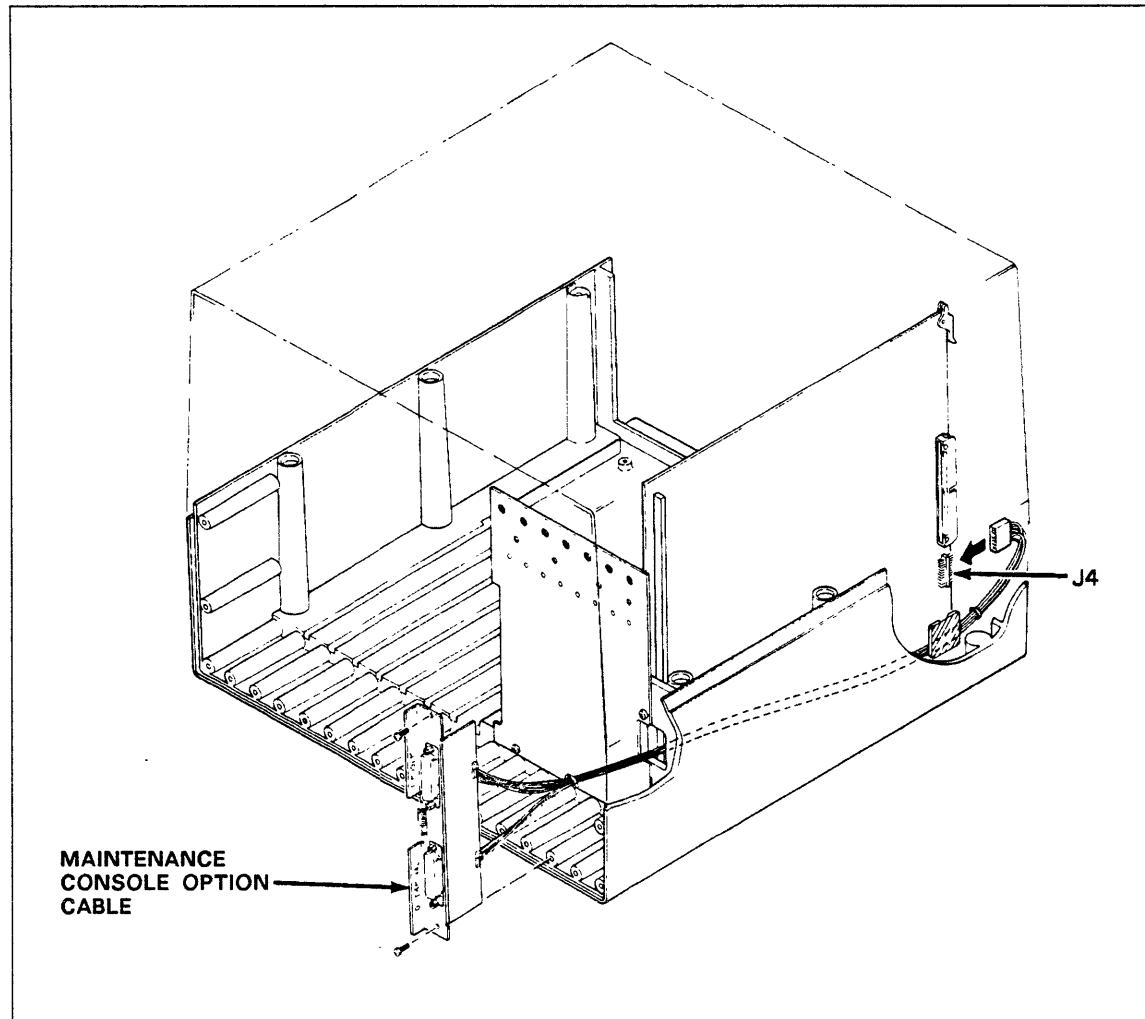

Figure 9-27. Maintenance Console Option
3. Disconnect maintenance console option (figure 9-27) from front of MPB board on connector J4.